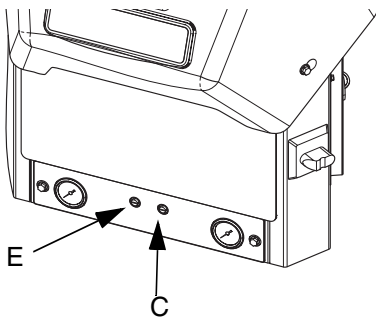

FIG. 20
- Use vacuum transfer air pressure regulator (E) to adjust vacuum transfer air pressure setting to 40-100 psi (280-690 kPa, 2.8-6.9 bar). Recommended setting is 60 psi (414 kPa, 4.1 bar). See FIG. 20.